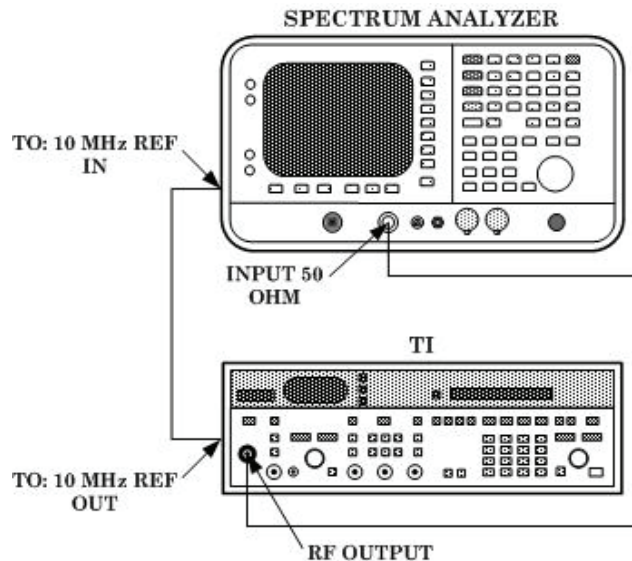

Figure 3. Harmonic, sub harmonic, multiples and non-harmonic spurious hookup.
(1) Connect equipment as shown in figure 3 below.